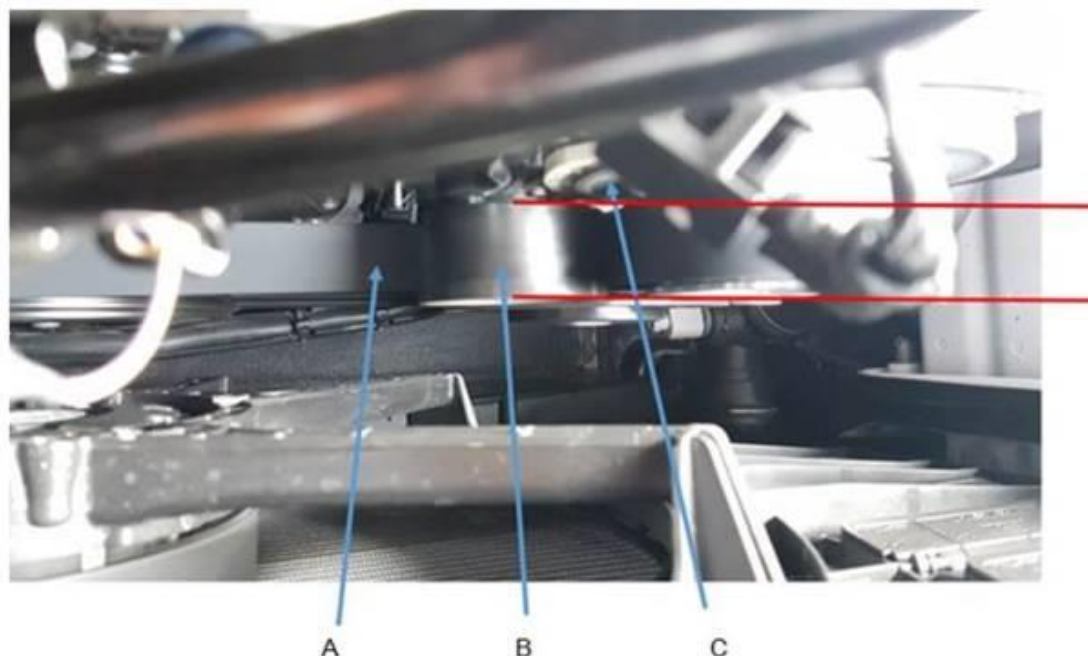

Figure 2. Check to ensure that the poly V-belt is not protruding in either direction.
2. The belt must not protrude forward or backward over the roller edge of tensioner (Figure 2, red marks).